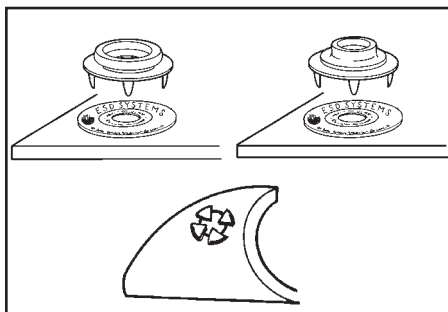

Figure 9. Installing push and clinch mat grounding snap.
B. Center the prongs of the snap assembly with the label. Apply pressure to the snap until the prongs come through the back of the mat. Clinch over prongs to secure snap as shown below in Figure 9.